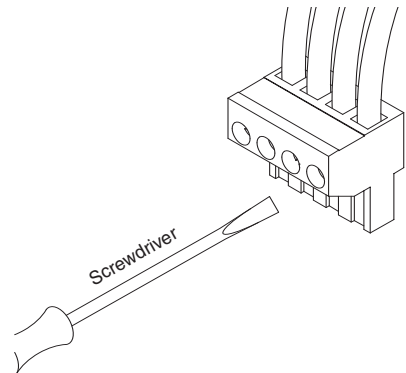

Figure 8: Tighten with screwdriver
Step 3: Attach Wiring to the Terminal Connector (Figure 8)